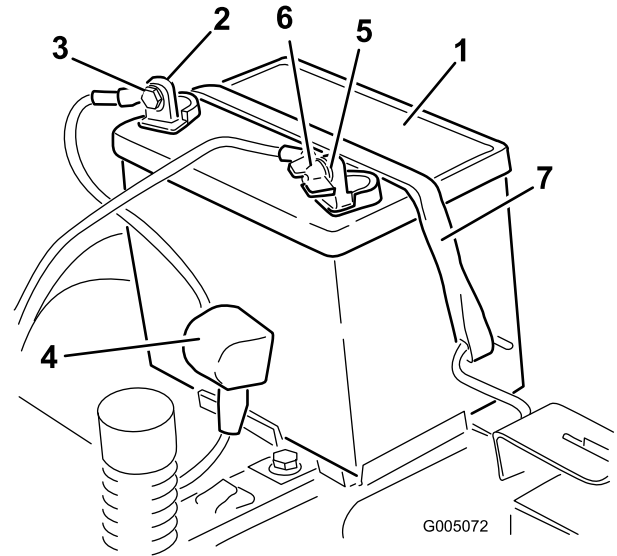

Figure 44
4. Disconnect the negative (black) ground cable from the battery post (Figure 44). Retain all fasteners.
5. Slide the rubber cover up the positive (red) cable. Disconnect the positive (red) cable from the battery post (Figure 44). Retain all fasteners.
6. Remove the battery hold-down (Figure 44) and lift the battery from the battery tray.
1. Position the battery in the tray (Figure 44).
5. Secure the battery with the hold-down (Figure 44).